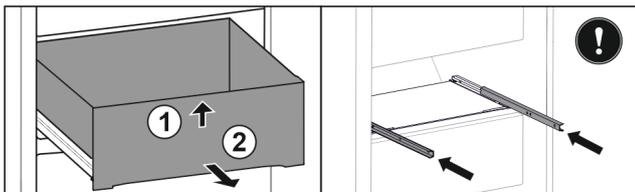

Fig. 45
- ▶ Lift up drawer at the front. Fig. 45 (1)
- ▶ Remove drawer to the front. Fig. 45 (2)